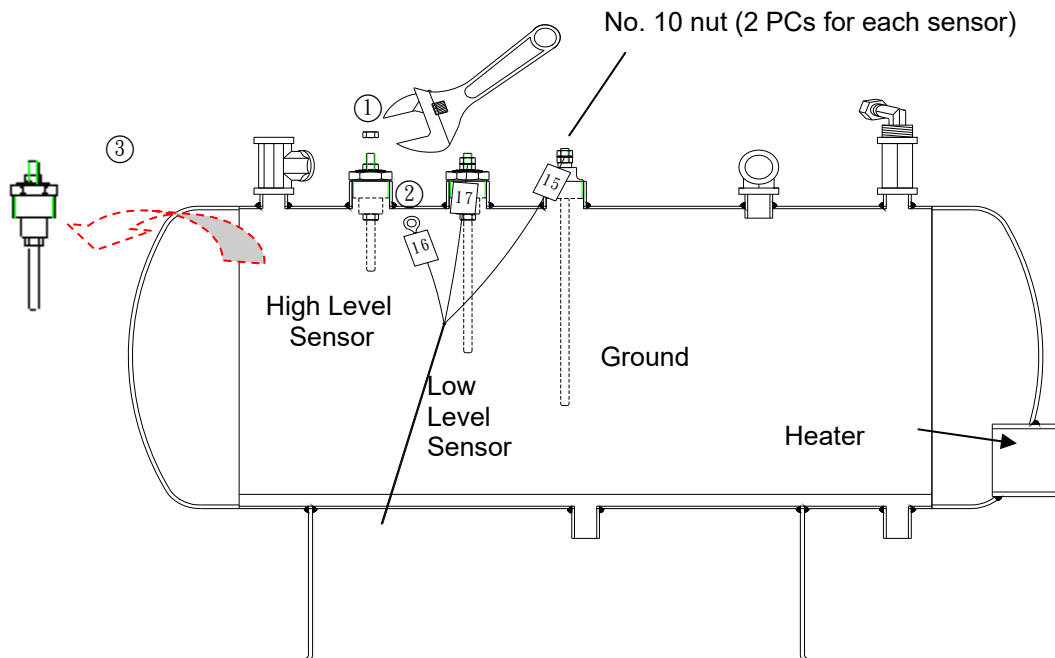

Figure 77
- B. Disconnect the three wirings counter-clockwise by using a No. 10 wrench (or an adjustable wrench), as shown in Figure 77.